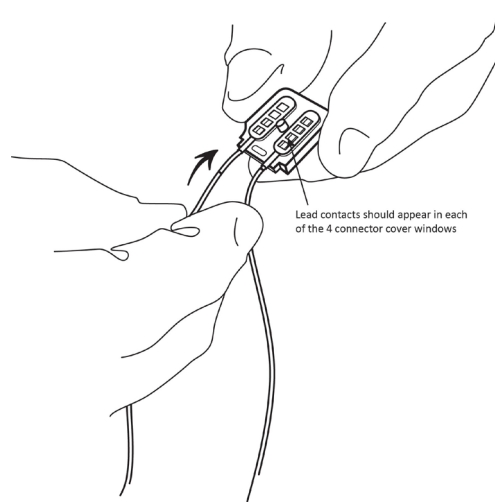

Figure 13: Connector cover with proximal lead contacts in place.
4. Confirm that the lead contacts are fully visible in each window of the connector cover (Figure 13 on page 34).
19. Confirm that the lead contacts are fully visible in each window of the connector cover (Figure 13 on page 34).